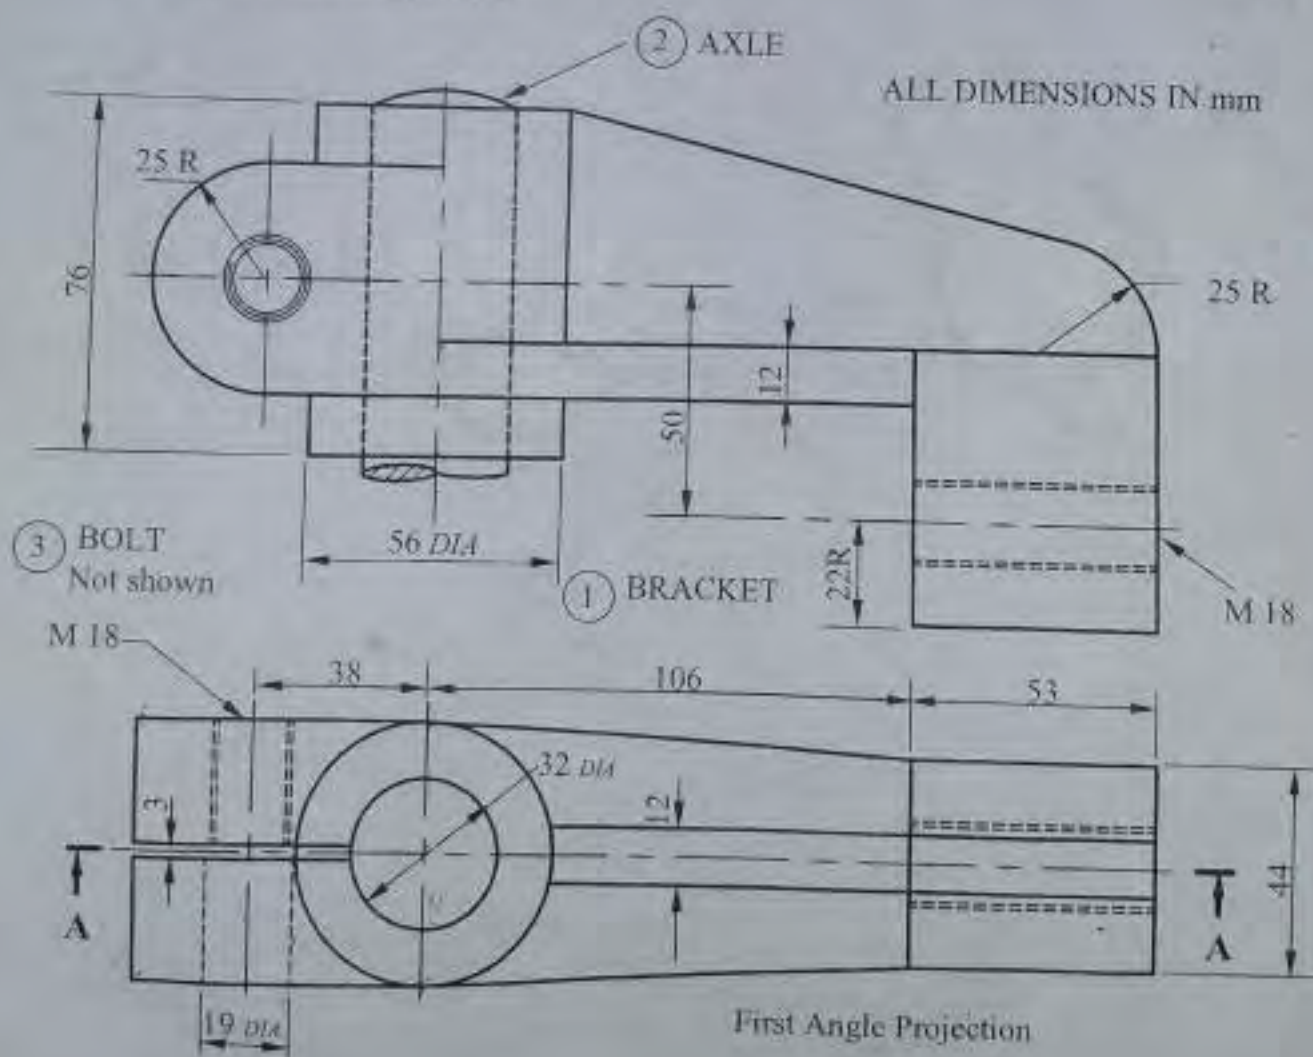

Figure 1
Figure 1 shows two views of a GEAR-CHANGE LEVER bracket from a lathe. When in use, bracket (1) is clamped to the 32 mm diameter axle by a bolt passing through the 19 mm diameter hole and screwed into M 18 threaded hole. Bolt (3) is hexagon – headed, 62 mm long, with the thread running for 44 mm.